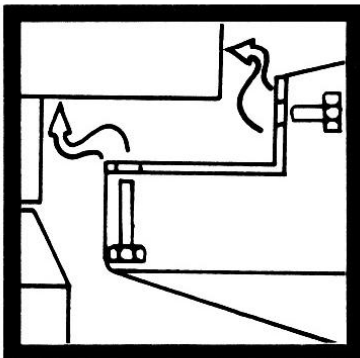

figure 7b
5. (a) **Tail Fin Assembly (Standard and Marine Model) - (Figure 7b)**